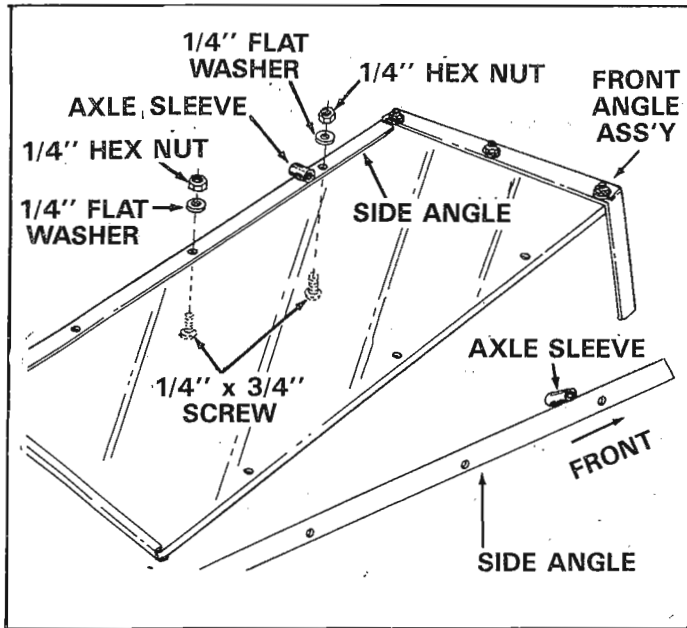

FIGURE 3
3. Turn front angle assembly and bottom panel upside down as shown in figure 3.
4. Lay the two side angles on bottom panel so that the axle sleeves are towards the front angle assembly. See figure 3.
5. Secure two side assemblies to the bottom panel with four 1/4" x 3/4" truss head screws, flat-washers and hex nuts in front two holes each side only. See figure 3. Make only finger tight.